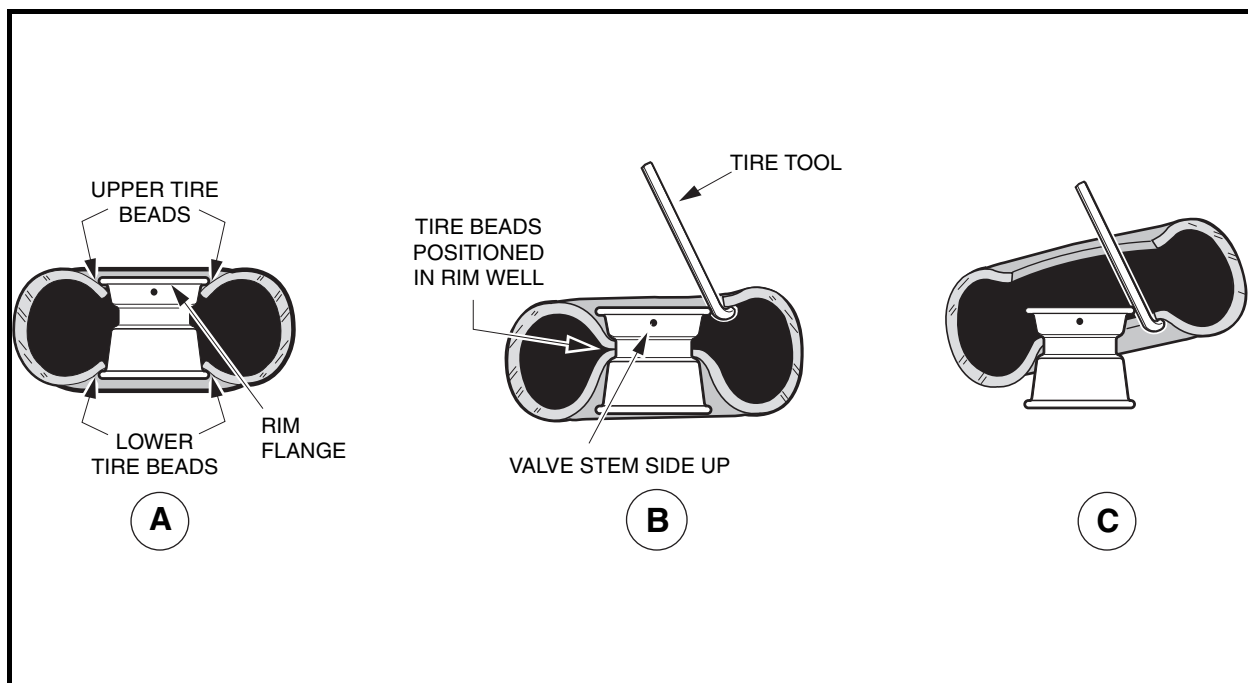

Figure 8-1 Tire Removal
- 3.1. If a tire machine is not available, loosen both tire beads by applying pressure to the tire side walls and pushing the tire bead away from the rim flange and into the rim well (**Figure 8-1, Page 8-2, Detail A**).
- 3.2. With the valve stem side of the wheel up, use a tire tool to carefully start the upper bead over the edge of the wheel rim (**Figure 8-1, Page 8-2, Detail B**). See following **CAUTION**.
- 3.3. When top bead is free of the rim, pull the bead from the bottom side of the rim up into the upper part of the rim well. Insert the tire tool under the lower bead as shown (**Figure 8-1, Page 8-2, Detail C**) and carefully pry the lower bead over the rim flange.